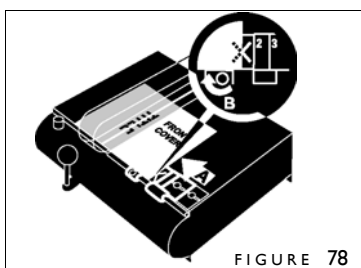

FIGURE 78
4. With the Centering Guide Locking Knob loosened, slide the Centering Guide under your cover until the right edge of the cover lines up with the middle of the X (Figure 78). Then tighten the Centering Guide Locking Knob (B).